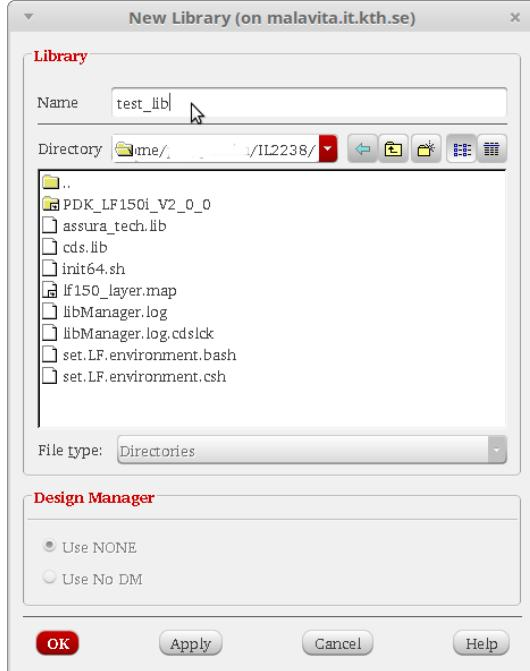

Figure 4: Create a New Library
1. From the Library Manager go File→New Library. A window like in Fig. 4 will pop-up.